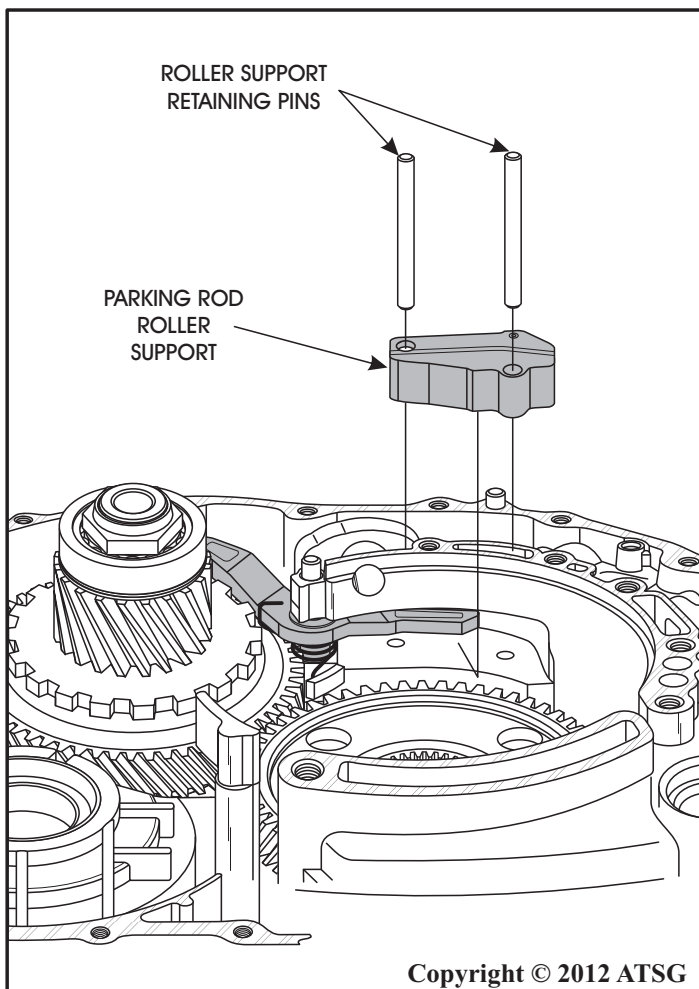

Figure 71
38. Remove the two parking rod roller support pins, as shown in Figure 71, using needle nose pliers.
39. Remove the parking rod roller support from the inside of case, as shown in Figure 71.